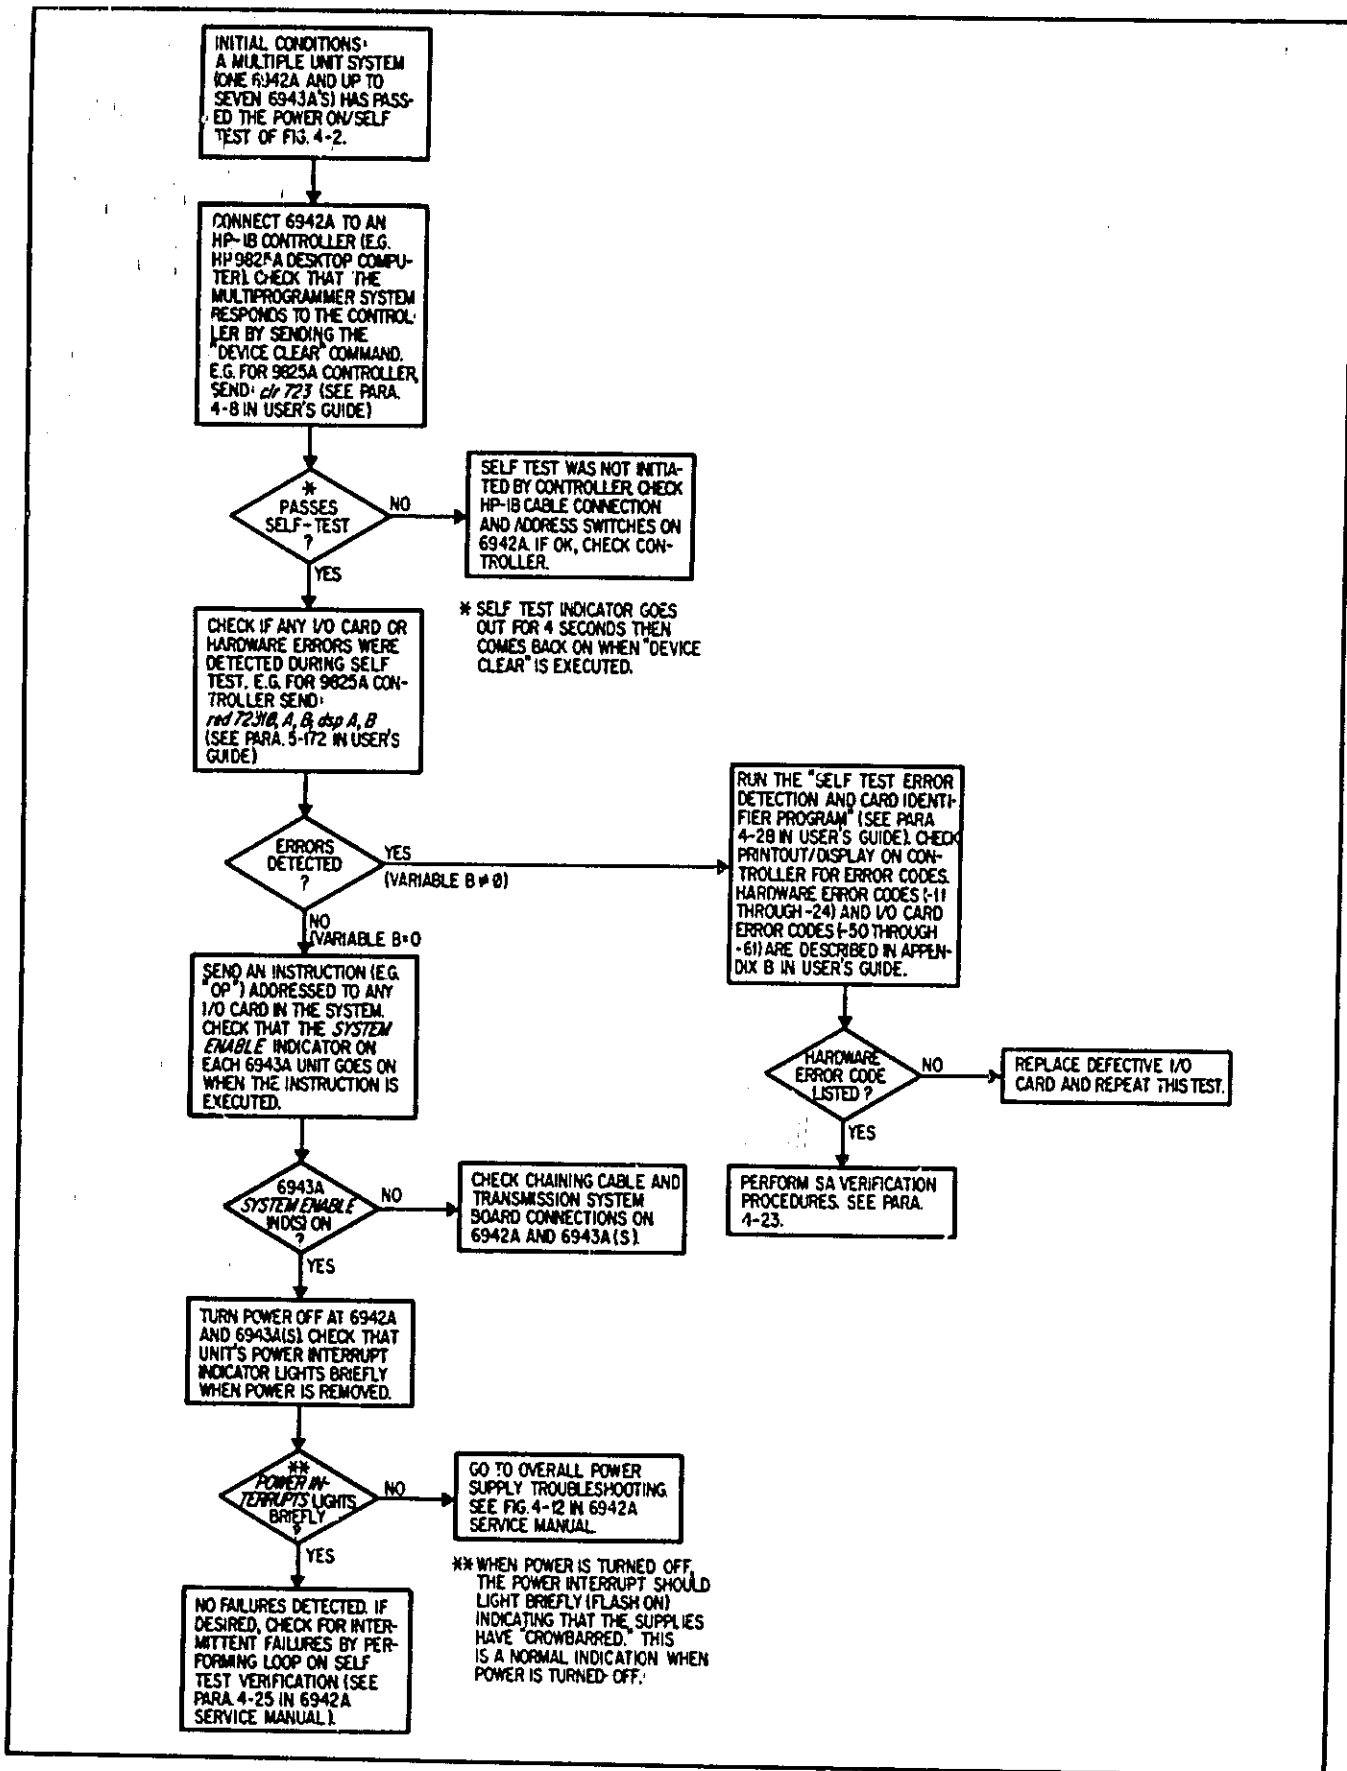
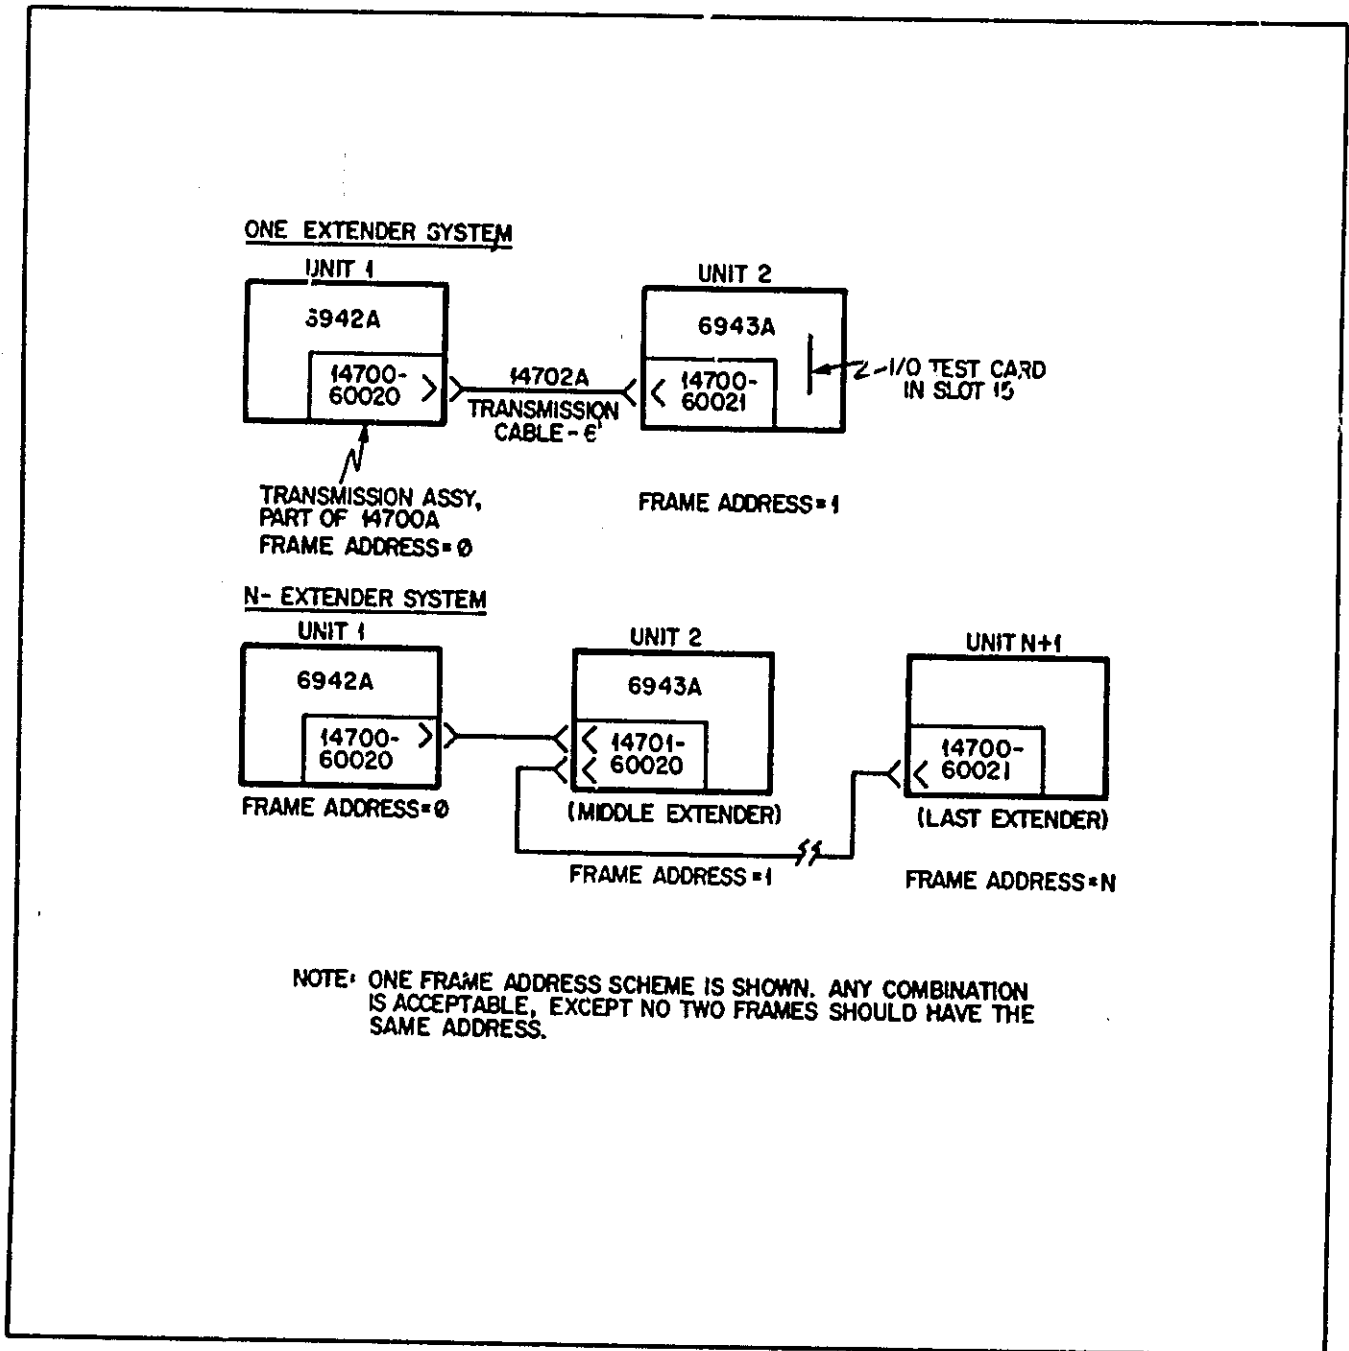

Figure 4-3. Controller Verification
Figure 4-5. 6942A/6943A Transmission System Configurations
4-14 The procedures provided in Figure 4-3 check that the Multiprogrammer responds correctly to controller commands. With the controller connected to the 6942A, the system is reset using the controller's "Device Clear" command. The clear command should initiate the self test causing the 6942A's front panel indicator to go out and then come on again in about four seconds. This verifies the ability of the Multiprogrammer System to respond to a bus command in addition to passing the power on/self test described above. Upon the successful completion of self test (SELF TEST lights after four seconds), the operator can check if any errors were detected by reading the Multiprogrammer's SRQ status (see paragraph 5-172 in User's Guide). If error(s) are detected, the Self Test Error Detection and Card Identifier Utility program should be run. This program is recorded on a data cartridge (HP 9825/35/45 Controllers only) supplied with the User's Guide. If errors were detected, during self test, this program provides a printout of the error codes.
4-15 After checking for errors, the procedures in Figure 4-3 verify operation of the SYSTEM ENABLE (SYE) line. Finally, power is removed from each unit in the system. The POWER INTERRUPT indicator on each unit should flash on briefly when power is switched off to indicate that the power supply's crowbar circuits are operating properly.
4-22 Signature Analysis (SA) is a method developed by Hewlett-Packard for verifying and troubleshooting microprocessor-based logic circuits. In order to perform SA, the HP5004A Signature Analyzer and a modified Model 69731A Digital Output Card (See Figure 4-3 in the 6942A Service Manual) are required. The SA procedures can be performed at any time but are intended primarily for post repair verification. SA verification can also be used when the controller based software (Self Test Error Detection and Card Identifier Utility Program Cartridge) is not available or cannot be run. SA verification tests the 6942A/6943A and all I/O card slots, indicating any errors the utility program would report. Figure 4-5 illustrates the transmission board configurations and cabling requirements for a one extender system and for a multiple extender (up to 7 6943A's) system.